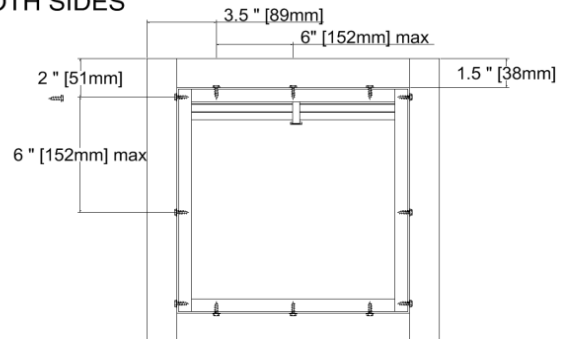

Figure 7
- 4. SECURING DAMPER IN OPENING (2 SIDED ANGLE METHOD):** In this method 2 sets of angles are used to secure the damper in the opening, one on each side of the partition (See Figures 1 through 7). Two Angle Method is approved for 1-1/2 Hr, vertical or horizontal orientation, and any maximum size multi-section UL approved damper. Angles shall be a minimum of 1-1/2" x 1-1/2" (38 x 38mm) x 16 gage. The angles are to overlap the partition a minimum of 1" (25mm). These angles may be of a unit type construction and may or may not be fastened to each other at the corners. Angles are to be fastened to the sleeve on 6" centers with #10 (M5mm) sheet metal screws, 3/16" (5mm) steel pop rivets, 1/2" (13mm) tack welds, or 1/4" (6mm) diameter nut and bolts with not more than 2" (51mm) from each end with a minimum of two connections per side/leg. When the duct work terminates at the damper or installation prohibits angles from turning out/away from the wall, the retaining angle shall be reversed (leg turned into the opening) providing the size of the opening is increased by an amount equal to twice the combined thickness of the angle and the height of the screw or bolt head to maintain expansion clearances. See note 1A for information on clearances. See Fig. 7 for detailed drawings of installations. Retaining angles should not be fastened to the wall / floor material. The angles should only sandwich the partition and allow for damper / sleeve expansion during periods of intense heat.